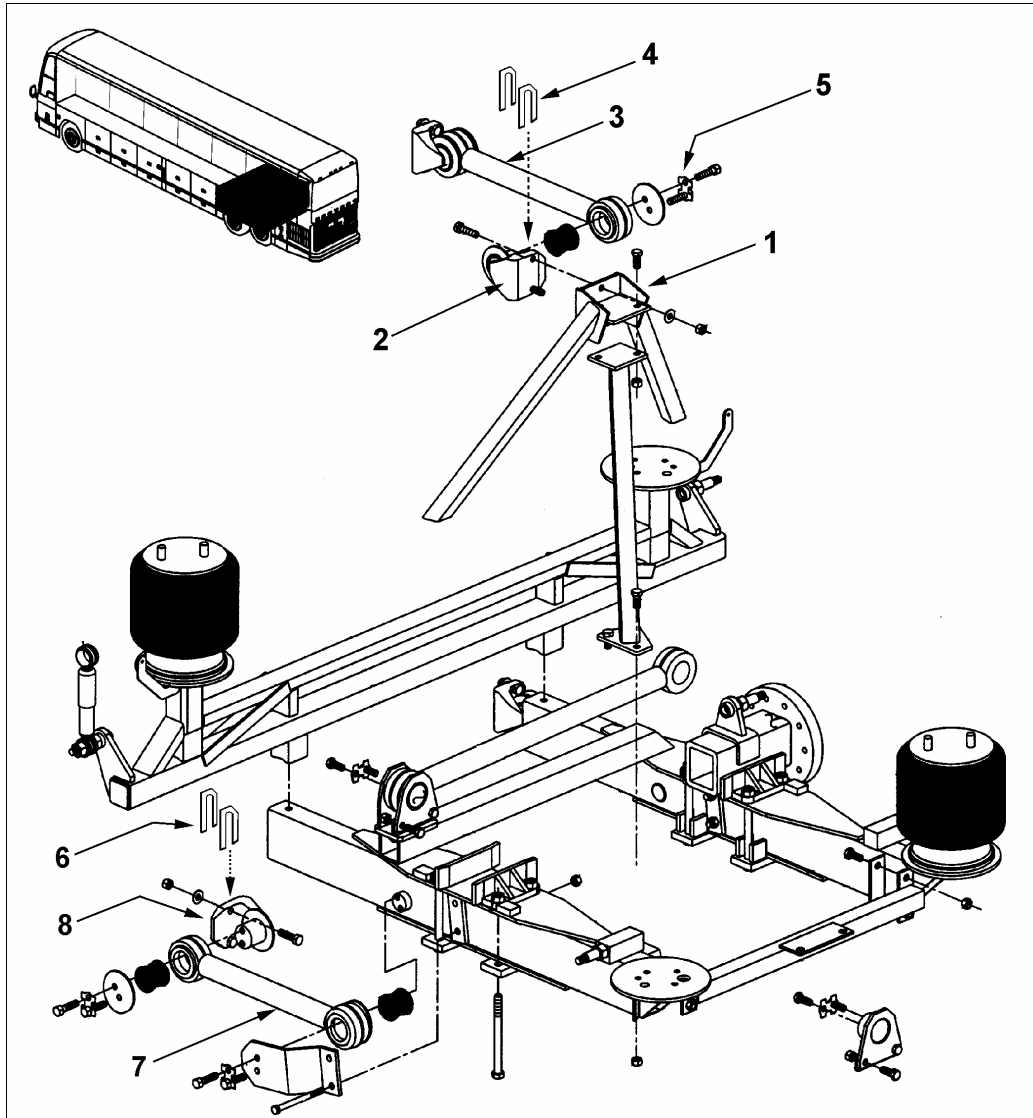

FIGURE 2: TRIPOD HEAD; HIGHER RADIUS ROD SUPPORT; HIGHER RADIUS ROD; SHIM; TAB WASHER; SHIM; LOWER RADIUS ROD; LOWER RADIUS ROD SUPPORT
3. Locate the lower radius rods (item figure 2). There is one on each side of the vehicle.
4. On each side, partially unscrew the bolts of the lower radius rod supports (item figure 2).
5. Pry the supports and insert one or two shims (item figure 2)(Prévost #121419) as required for the adjustment.
3. Locate the higher radius rod (item figure 2) and the tripod head (item figure 2).
6. Coat the surface of contact of the head and the bolt threads with grease and position the radius rod. Use the new tab washers (item figure 2)(Prévost #110340) then tighten bolts by hand.
9. Pry the support and insert, as required, one or more shims (item figure 2) (Prévost #121419) between the radius rod support and the tripod head .
5. Pry the support and insert, as required, one or more shims (item figure 2) (Prévost #121419) between the radius rod support and the tripod head .